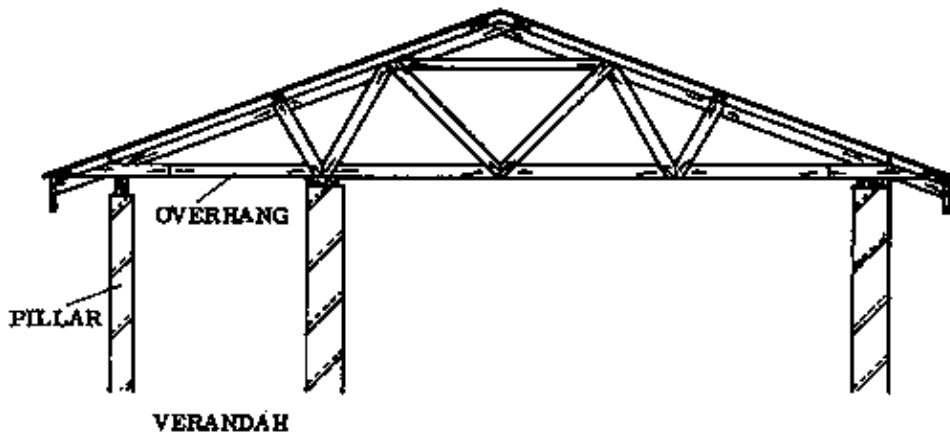

Fig. 1 EXTENDING THE TIE BEAMS
- By extending the tie beams to cover the verandah (Fig. 1)
– **EXTENDING THE TIE BEAMS:** The part of the tie beam that covers the verandah is called the overhang (Fig. 1). For a small overhang, supporting pillars are not necessary, but it should be braced very well. If the overhang is wide, then pillars are needed to support it (Fig. 1).